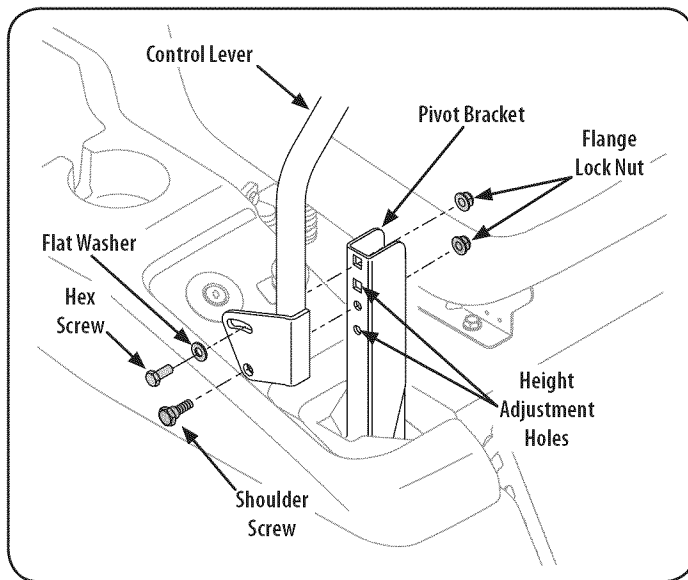

Figure 35
2. While supporting the control lever to keep it from falling, remove the hex insert flange lock nut and shoulder screw from the bottom of the control lever and pivot bracket. Refer to Figure 35.
1. If not already loose, loosen the flange lock nut and rotate the control lever either forward or rearward to the desired position. See Figure 35.